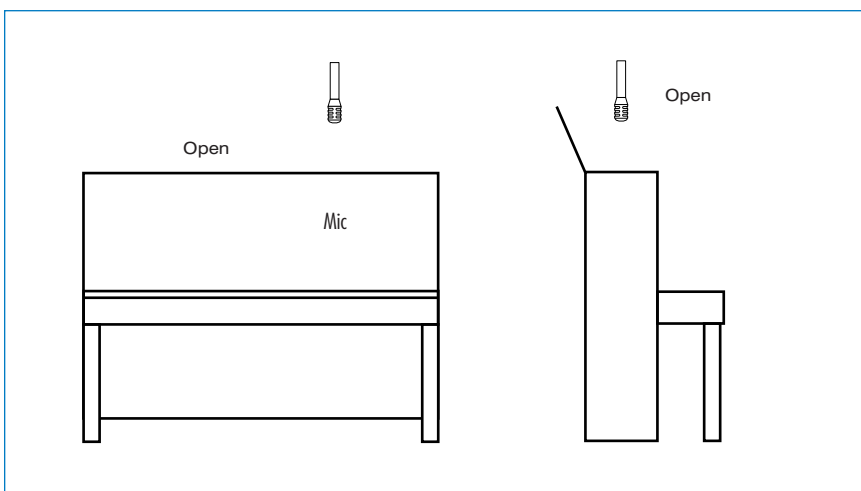

Figure 10
**Piano** – Open the lid and aim a condenser microphone just over the top, above the treble strings (see figure 10).